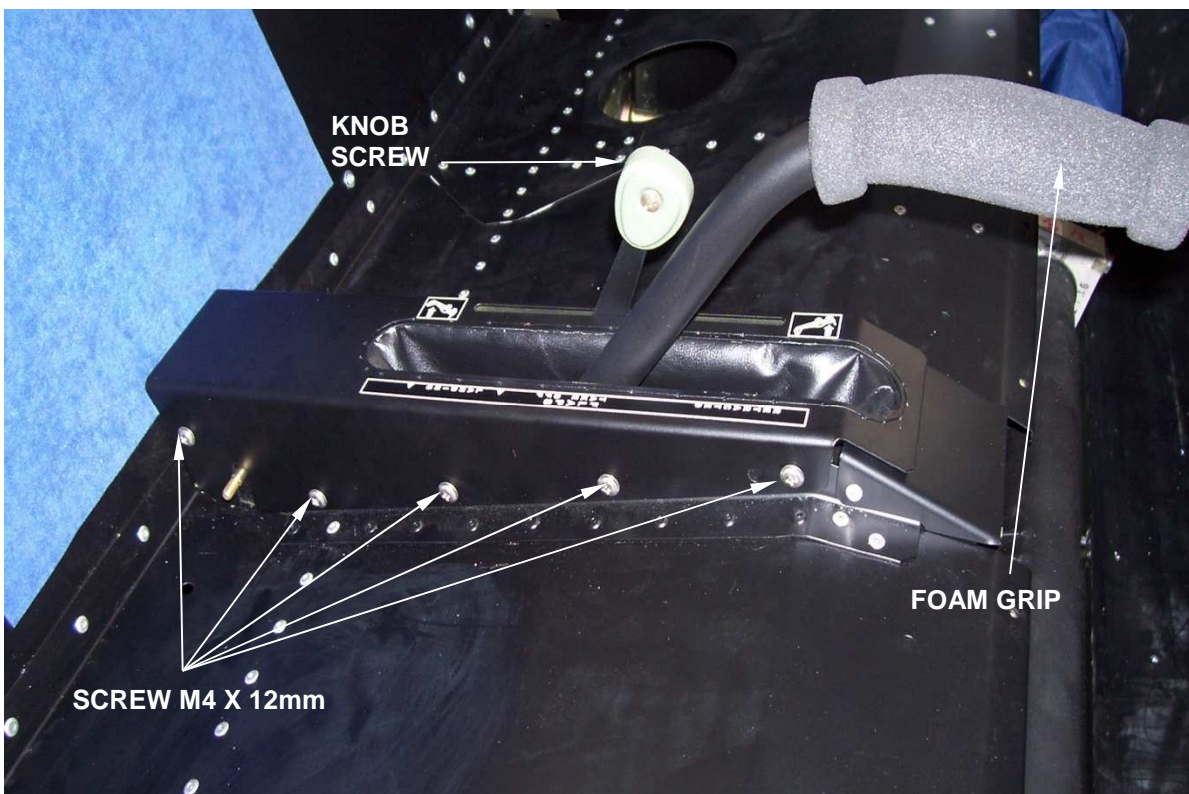

Fig 8.
- A. Loosen the seat belt retaining nuts and remove the flap cover by removing the eight M4 screws, foam grip and the trim knob (Figure 8), then pull the flap cover off over the flap lever.